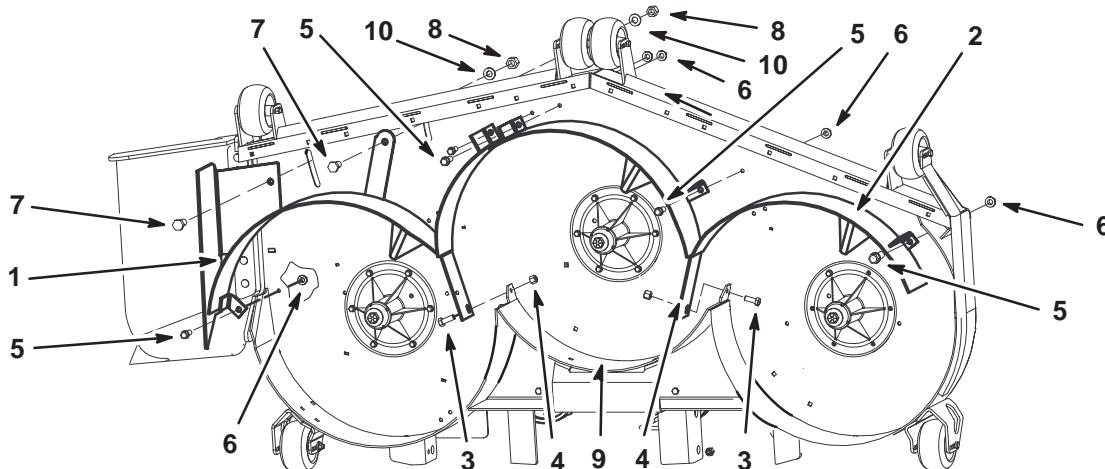

Figure 5
2. Secure the right baffle to the top of the mower with 2 bolts (1/2 x 1 inch), 2 tapping bolts (3/8 x 1 inch), 2 nuts (1/2 inch), 2 washers (1/2 inch), and 2 flange nuts (3/8 inch) (Fig. 5).
3. Secure the right baffle to the rear baffle with 1 bolt (3/8 x 1 inch) and 1 nut (3/8 inch) (Fig. 5).
5. Secure the left baffle to the top of the mower with 3 tapping bolts (3/8 x 1 inch) (Fig. 5).
6. and 3 flange nuts (3/8 inch) (Fig. 5).
7. Secure the left baffle to the rear baffle with 1 bolt (3/8 x 1 inch) and 1 nut (3/8 inch) (Fig. 5).